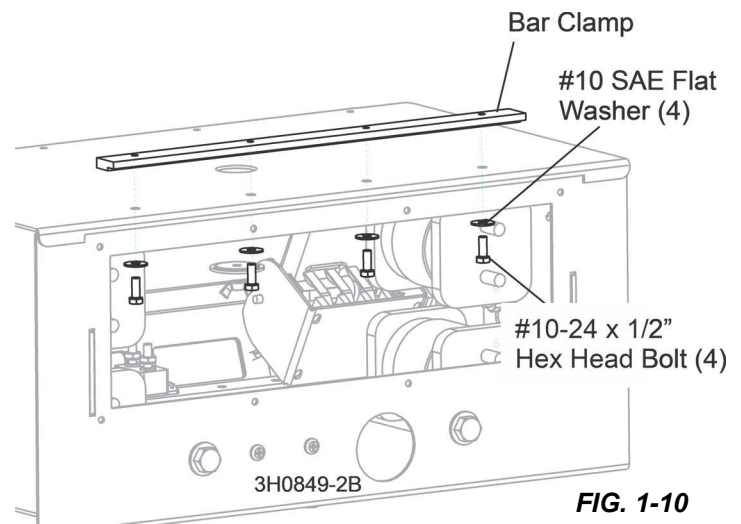

FIG. 1-10
19. Use the four provided #10 flat washers and 10-24 x 1/2" hex head bolts to loosely secure in place from the bottom (do not tighten). **See Figure 1-10**
12. Connect the four wires from the sawmill control to the Accuset control as shown. See Fig. 1-10.